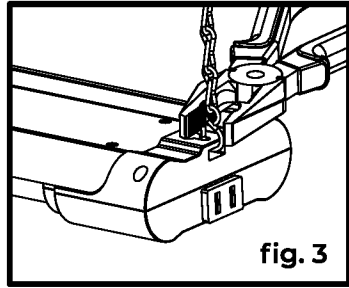

fig. 3
2. Attach the S-hook at the end of the hanging chain (BB) to the hanger in the shop light (fig. 2). Secure S-hook openings by closing them using pliers (not provided) (fig. 3). Repeat this step on the other side of the fixture.